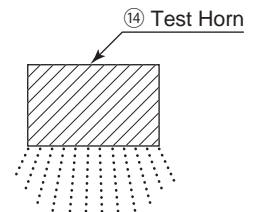

Fig. 17
- (5) As you gradually increase the Power Control Knob ⑨ to MAX, the water drop on the Test Horn ⑭ become vapor as shown Fig. 17.